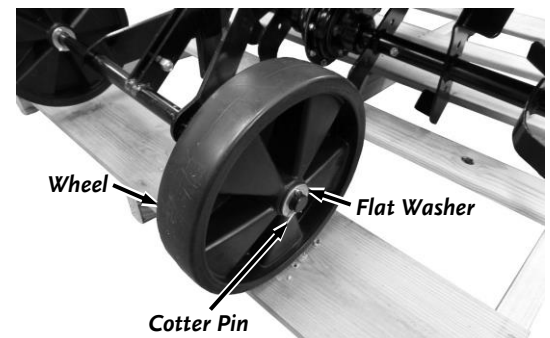

Figure 6
5. Position the Wheels onto the Axle against the Washers and Cotter Pins that were left on the Axle (**Figure 6**).
2. When starting a cold Engine, push the Choke Control Lever to the Choke  position and the Throttle Control Lever to Run  position (**Figure 6**).